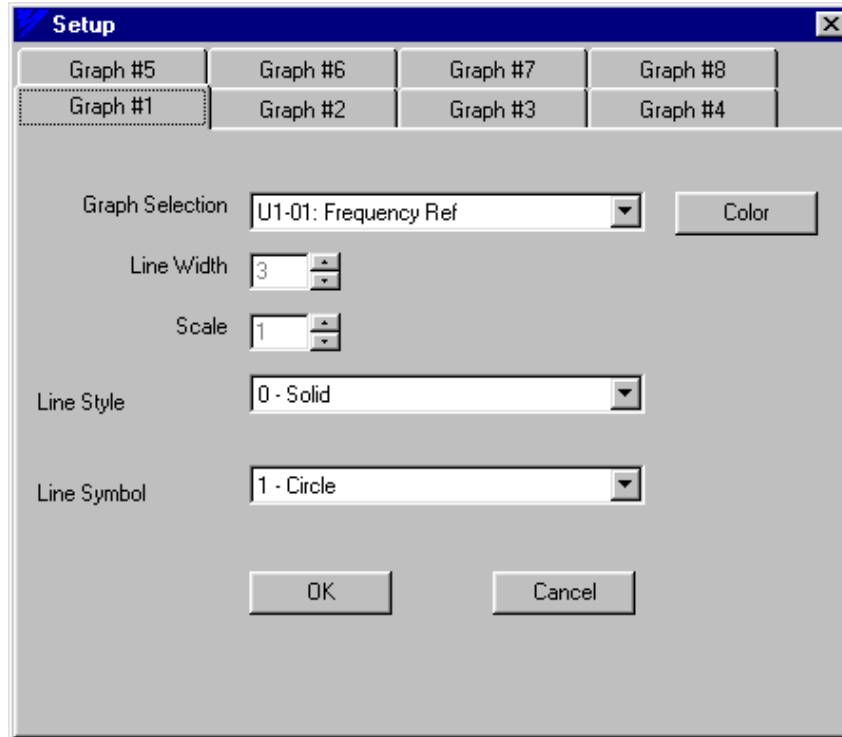

Figure 7.3: Graph Setup Window
4. Click on the **Setup** button on the right of the graphing area and the tab for Graph #1 will appear (Figure 7.3).